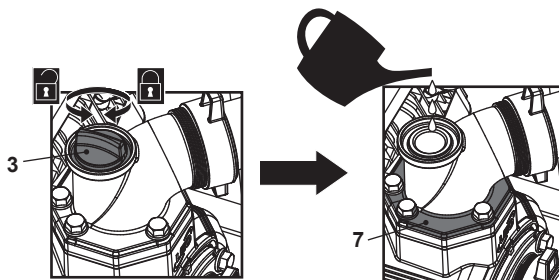

Fig. 4
- Remove the filling plug (3) from the top of the pump (Fig. 4).
- Fill the pump head (7) with water until it overflows. Do not leave any air gap.